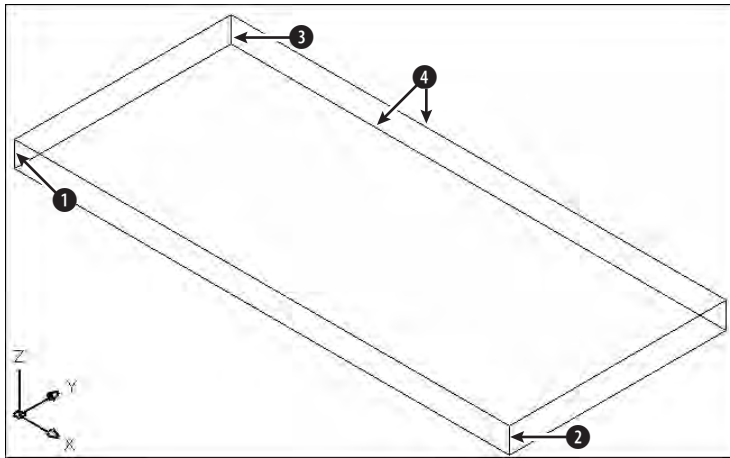

Figure 24-38: You can chamfer this solid box to create a new shape.
2. Save the file as *ab24-12.dwg* in your AutoCAD Bible folder. This is a simple box with dimensions of 233×102×12 millimeters, as shown in Figure 24-38.
at ❶ in Figure 24-38.